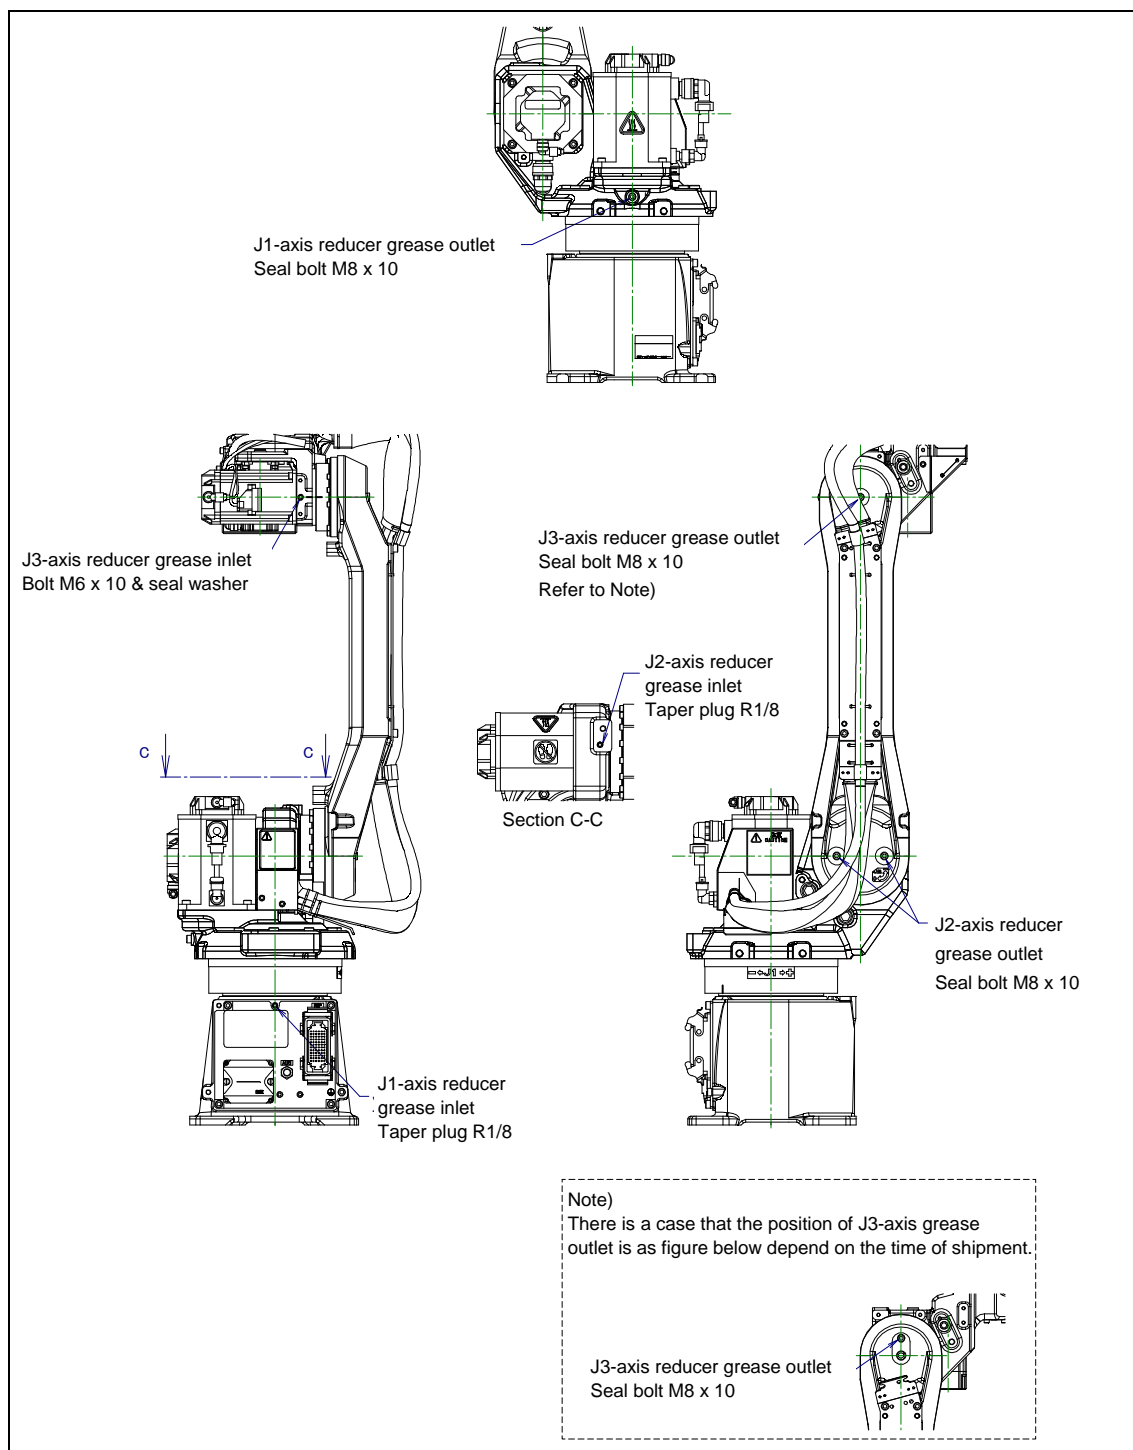

Fig. 7.3.2.1 Greasing points of J1 to J3-axis reducer
- 3 Remove the seal bolt or taper plug from grease outlet. (Fig. 7.3.2.1)